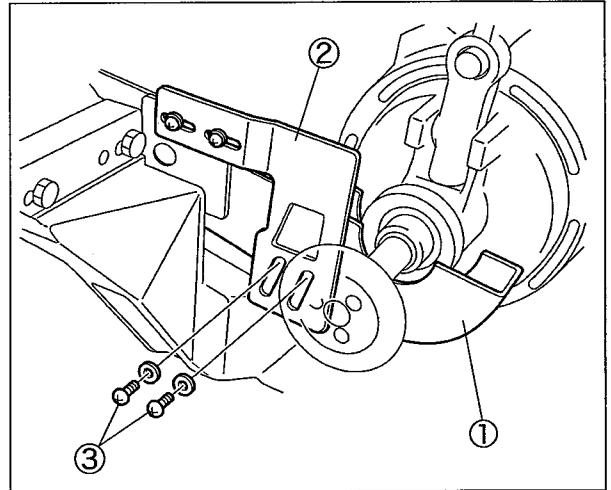

Fig.1-7
- (1) Set the belt cover(lower)① on the belt cover bracket ② with the screws ③. (Fig. 1-7)